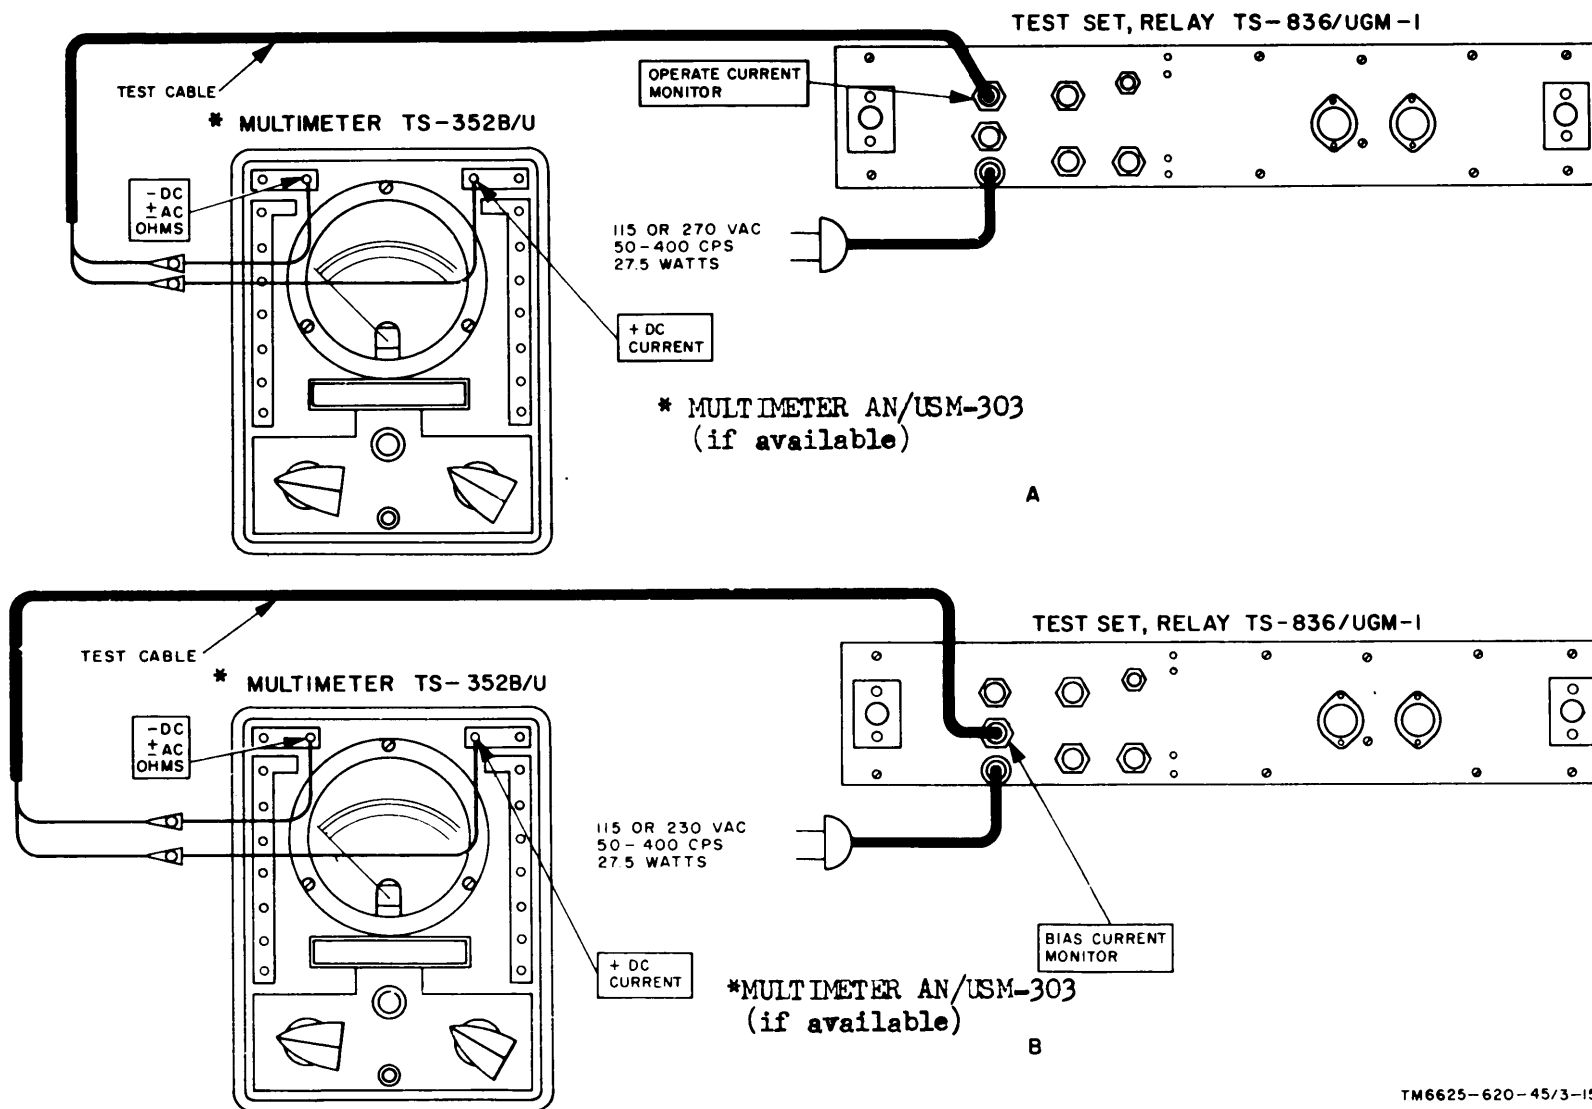

Figure 5-3. Bias test setup.
- (1) Multimeter TS-352B/U or AN/USM-303(if available).
- (2) Test cable.
- (3) Test relay, Sigma 72.
c. Test Connections and Conditions. Connect the equipment as shown in B, figure 5-3 for steps No. 1 and 2 and as shown in A, figure 5-3 for steps No. 3, 4, and 5.